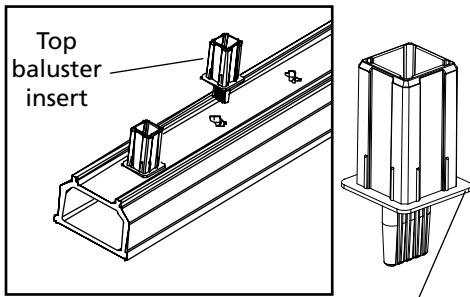

Figure 24
18. Fully engage the top baluster insert (Fig. 24) into each baluster slot in the top rail. Ensure that the top baluster insert is oriented the same as the corresponding bottom baluster insert.